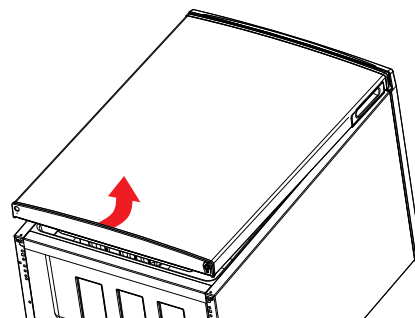

Fig. 3
- ▶ Use both hands to lift the bottom of the refrigerator door slightly and take the refrigerator door off the upper hinge (Fig. 3).